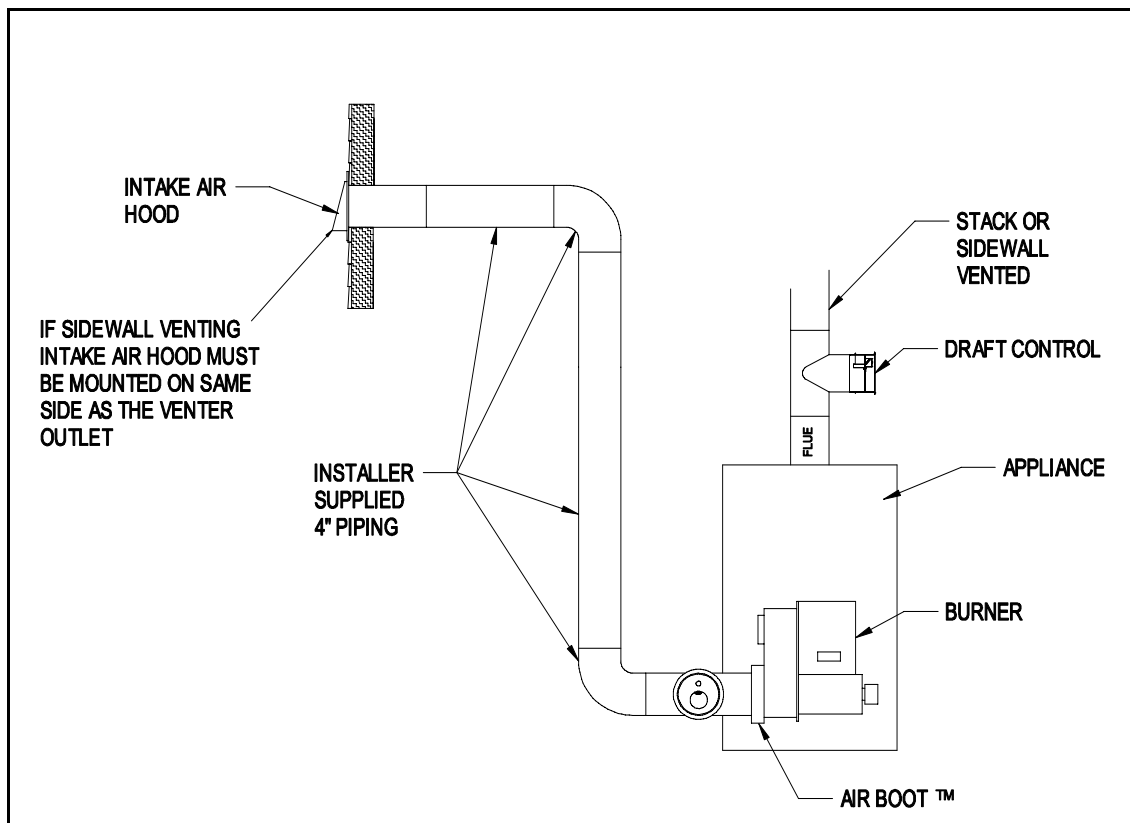

Figure 9
5. Refer to Figure 9 for general installation layout.